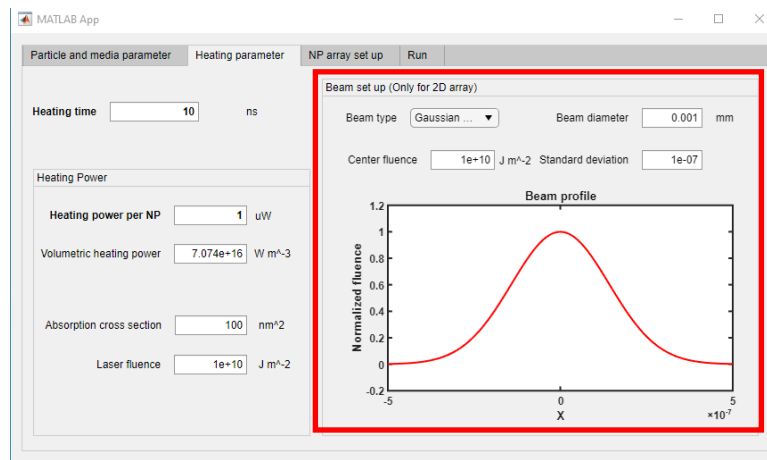

Fig. 3.3
For the heating power in terms of space, the APP will automatically set a constant heating power throughout the space, or a flat beam. For 2D nano particle (NP) array, this APP can also calculate heating case with gaussian beam (Fig. 3.3). It should be emphasized that for 3D and SPH NP array, this APP can only calculate heating under flat beam.